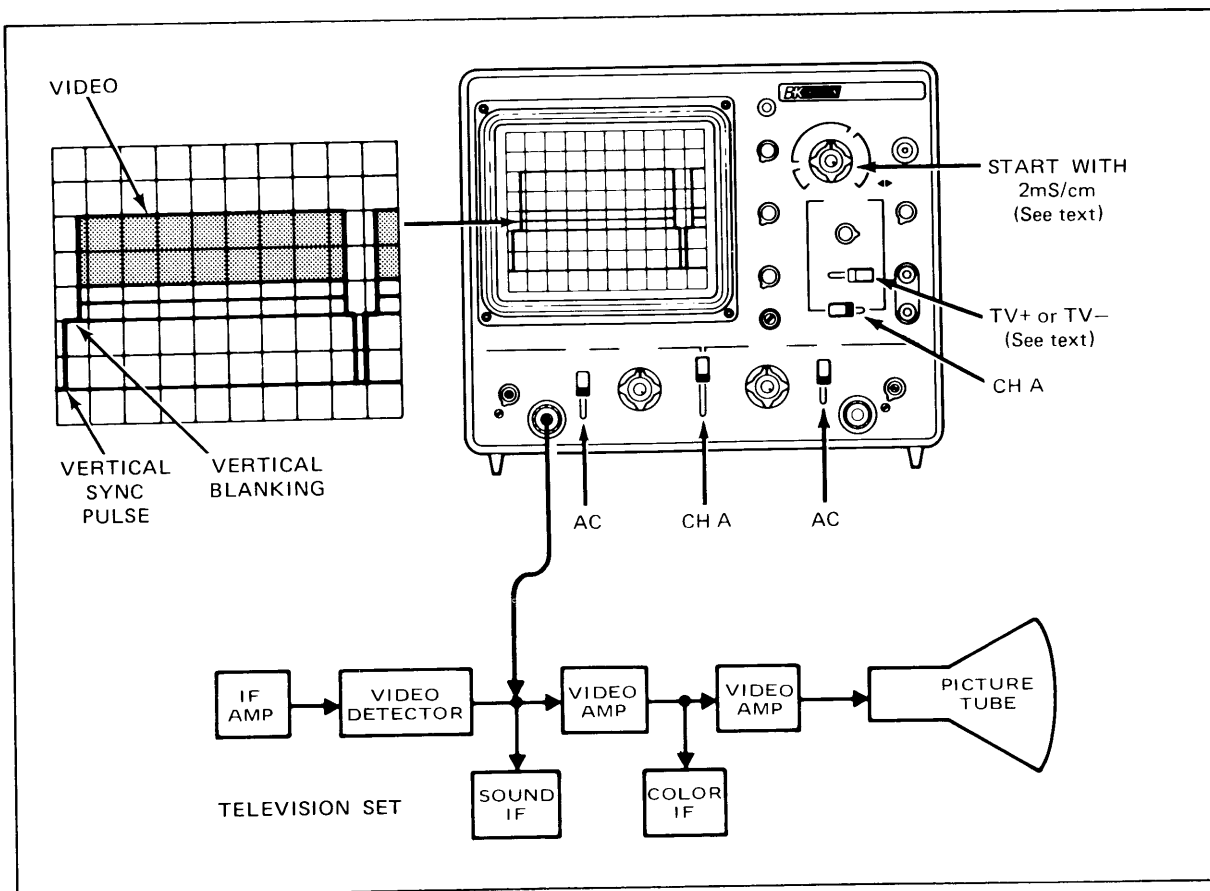
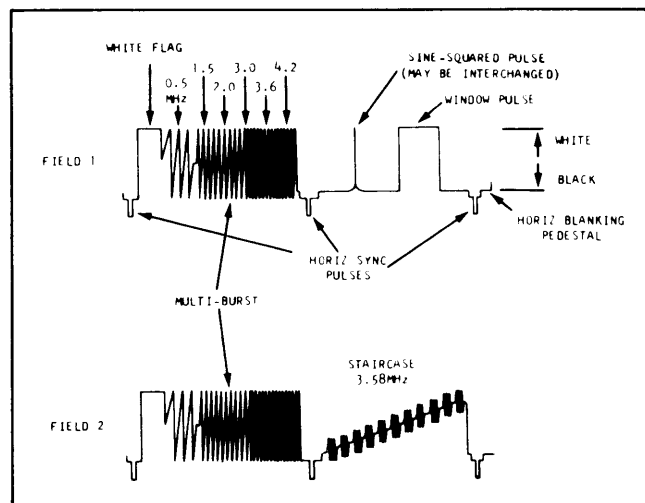

Fig. 19. Set-up for viewing fields 1 and 2 of VITS information.
Fig. 25. VITS signal, fields 1 and 2.
Many of the television servicing procedures can be performed using single-trace operation. These are outlined later in the applications section covering single-trace operation. One of these procedures, viewing the VITS (vertical interval test signal), can be accomplished much more effectively using a dual-trace oscilloscope. As outlined in the single-trace applications section and as shown in Fig. 25 and 26, the information on the Field #1 and Field #2 vertical blanking interval pulse is different. This is shown in detail in Fig. 25. Also, because the oscilloscope sweep is synchronized to the vertical blanking interval waveform, the Field #1 and Field #2 waveforms are superimposed onto each other as shown in Fig. 27A. With dual-trace operation, the signal information on each blanking pulse can be viewed separately without overlapping. Fig. 19 indicates the oscilloscope control setting for viewing the alternate VITS.
2. The control settings of Fig. 19 are those required to obtain a 2-field vertical display on Channel A.
The transmitted VITS is a precision sequence of specific frequency, amplitude, and waveshape as shown in Fig. 25 and 26. The television networks use the precision signals for adjustment and checking of network transmission equipment, but the technician can use them to evaluate television set performance. The first frame of the VITS (line 17) begins with a "flag" of white video, followed by sine wave frequencies of 0.5 MHz, 1.5 MHz, 2 MHz, 3 MHz, 3.6 MHz,